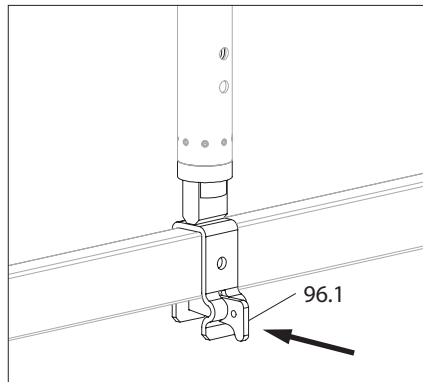

Fig. A11.09d
5. Tighten all wedges (96.1). (Fig. A11.09d)